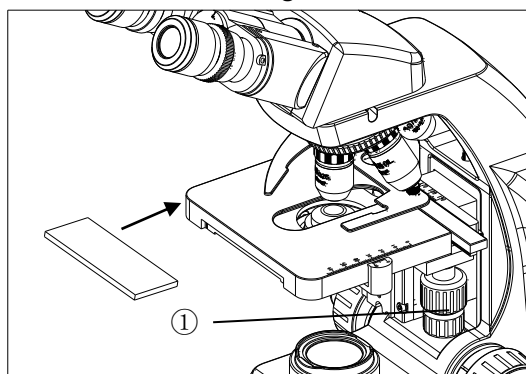

Fig.17
1. Connect the power cord and set the main switch ① to “—” state (ON).
2. Turning the brightness adjustment knob ②.
3.2.2 Placing the Specimen (Fig.17)